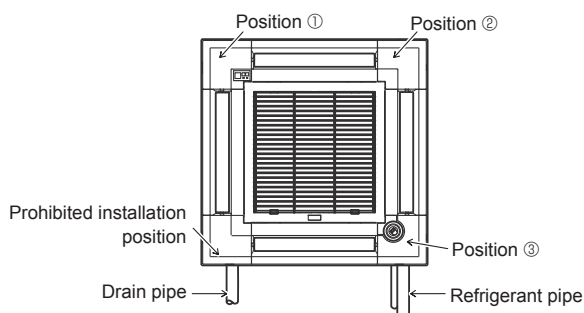

Fig. 9-11
The signal receiver corner panel can not be installed on the drain pipe side for the main unit. (Refer to Fig. 9-11)
- The i-see Sensor corner panel should be fixed onto the grille ① with screw ③.
- * If the position of the i-see Sensor was changed from default position (position ③) to the other position, change the function settings. (Refer to page 12 and Fig. 9-11)
- The i-see Sensor corner panel can not be installed on the drain pipe side for the main unit. (Refer to Fig. 9-11)